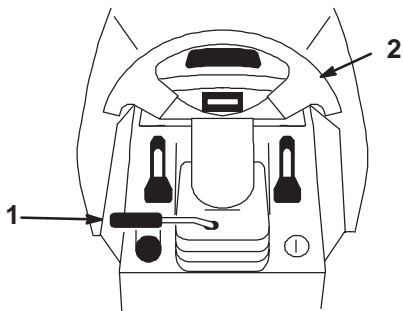

Figure 13
1. Lift the tilt lever to release the lock (Fig. 13).